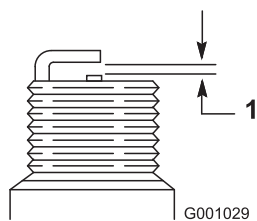

Figure 48
4. Set the gap between the electrodes on a new spark plug at 0.030 inch (0.76 mm) (Figure 48).